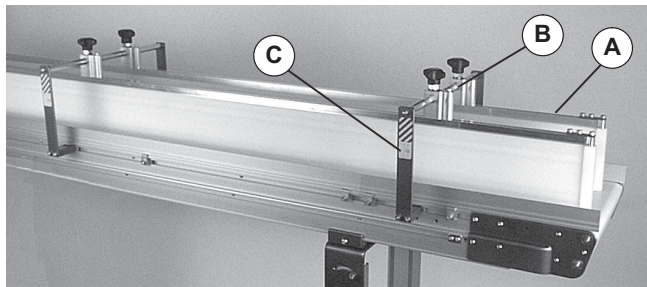

Figure 1
- Multiple lanes on 3100 Series conveyor (Figure 1)